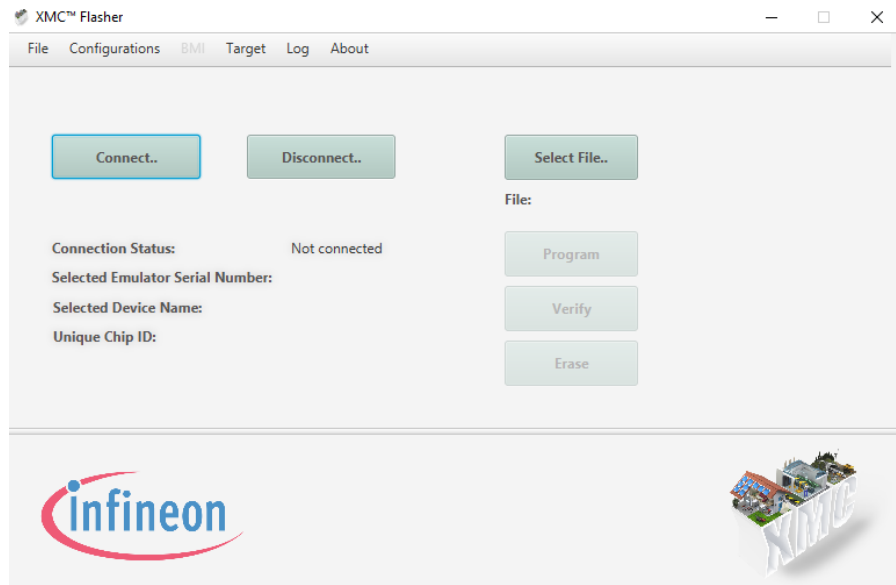

Figure 6. XMCFasher Programming Tool
Step 4. Start XMCFasher on the PC to get a window like that shown in Figure 6.